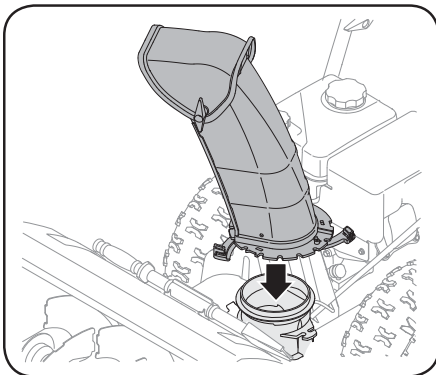

Figure 2-9
1. Position chute assembly over base. See Figure 2-9.